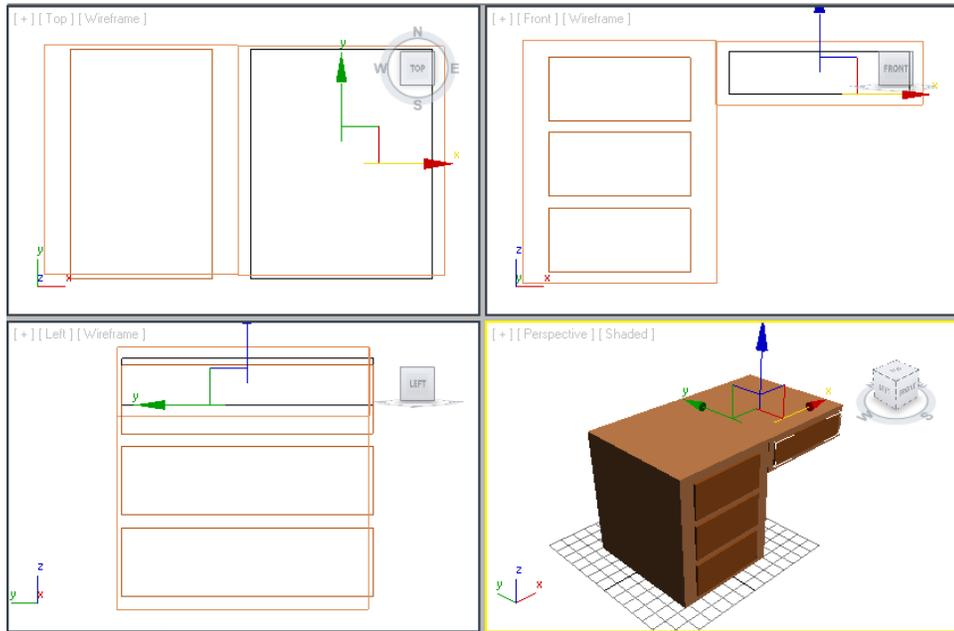

Figure 2-46 Alignment of *drawer004* in all viewports
5. Align *drawer004* with the right side of the box in viewports, as shown in Figure 2-46.